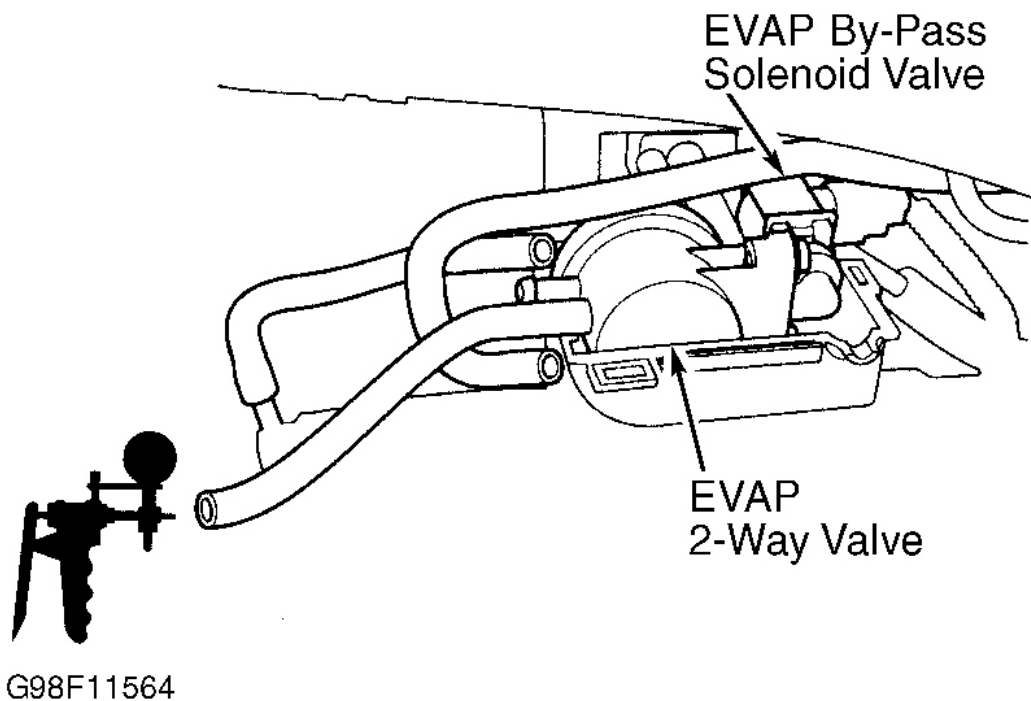

Fig. 12: Locating EVAP 2-Way Valve Vacuum Hoses
1. Disconnect vacuum hose from EVAP 2-way valve, and connect vacuum pump/gauge to hose. Install a jumper wire between ground and PCM connector "A" (32-pin connector) terminal No. 3 (Blue wire). See **Fig. 2** . Turn ignition on. Apply vacuum to EVAP 2-way valve. See **Fig. 12** . If 2-way valve holds vacuum, go to next step. If 2-way valve does not hold vacuum, EVAP by-pass solenoid valve and EVAP
4. Plug upper port of EVAP 2-way valve. Monitor fuel tank pressure (FTP) sensor voltage with a scan tool or use a DVOM to measure voltage between PCM connector "A" (32-pin connector) terminal No. 29 and PCM connector "C" (31-pin connector) terminal No. 18. See **Fig. 2** and **Fig. 4** . Turn ignition on and slowly apply vacuum to EVAP 2-way valve until voltage drops to about 1.5 volts. See **Fig. 12** . If voltage drops to 1.5 volts and holds for at least 20 seconds, EVAP by-pass solenoid valve and EVAP 2-way valve are okay at this time, proceed to **EVAP CANISTER VENT SHUT VALVE (CVSV) TEST** . If voltage does not drop to 1.5 volts and hold for at least 20 seconds, repair leak between EVAP by-pass solenoid valve, EVAP 2-way valve, FTP sensor and "O" rings.